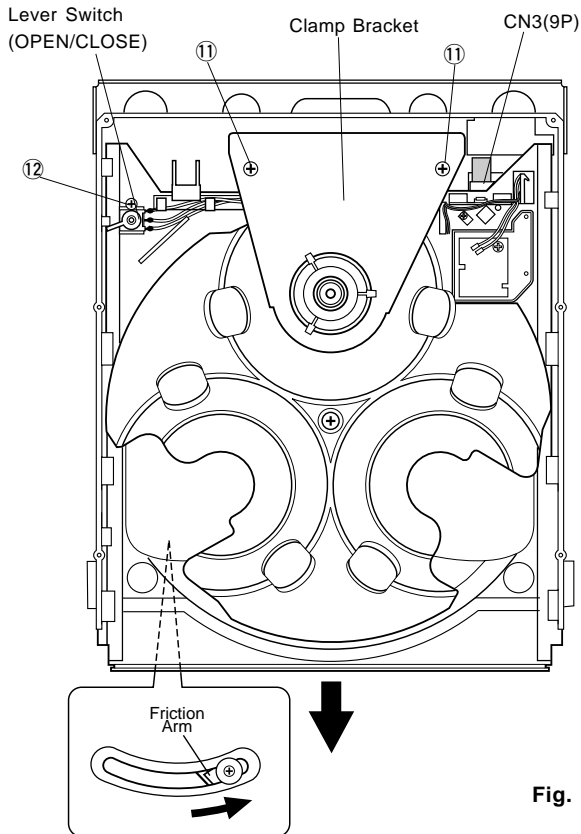

Fig. 10
- a. Remove 2 screws (⑪) and then remove the Clamper Bracket in Fig. 10.
- b. Remove 1 screw (⑫) and then remove the Lever Switch in Fig. 10.
- c. Disconnect the Flat Connecting Cable (9P) in Fig. 10.
- d. Push the Friction Arm (the bottom side of the CD Mechanical Unit) with a screwdriver or the like and pull out the Tray forward as in Fig. 10.